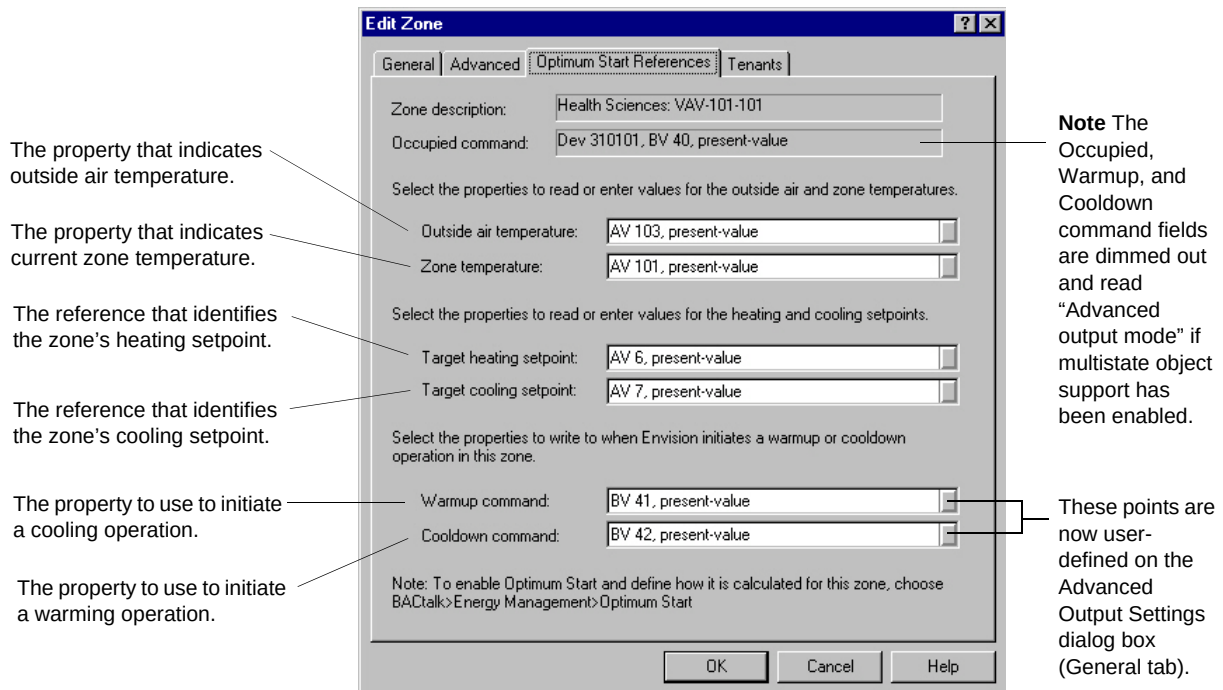

**Figure 3.6** Use the Optimum Start References tab to specify the data points and values that this zone uses for optimum start calculations.
**Note** Saved changes on the Advanced Output Settings dialog box affect settings in the Edit Zone dialog box. For example, the Occupied command field on all tabs is disabled and displays “Advanced output mode.” All other fields on the Edit Zone tabs display the current settings until the user changes them. The Warmup command and Cooldown command fields on the Optimum Start References tab are also disabled (see Figure 3.6 on page 41).